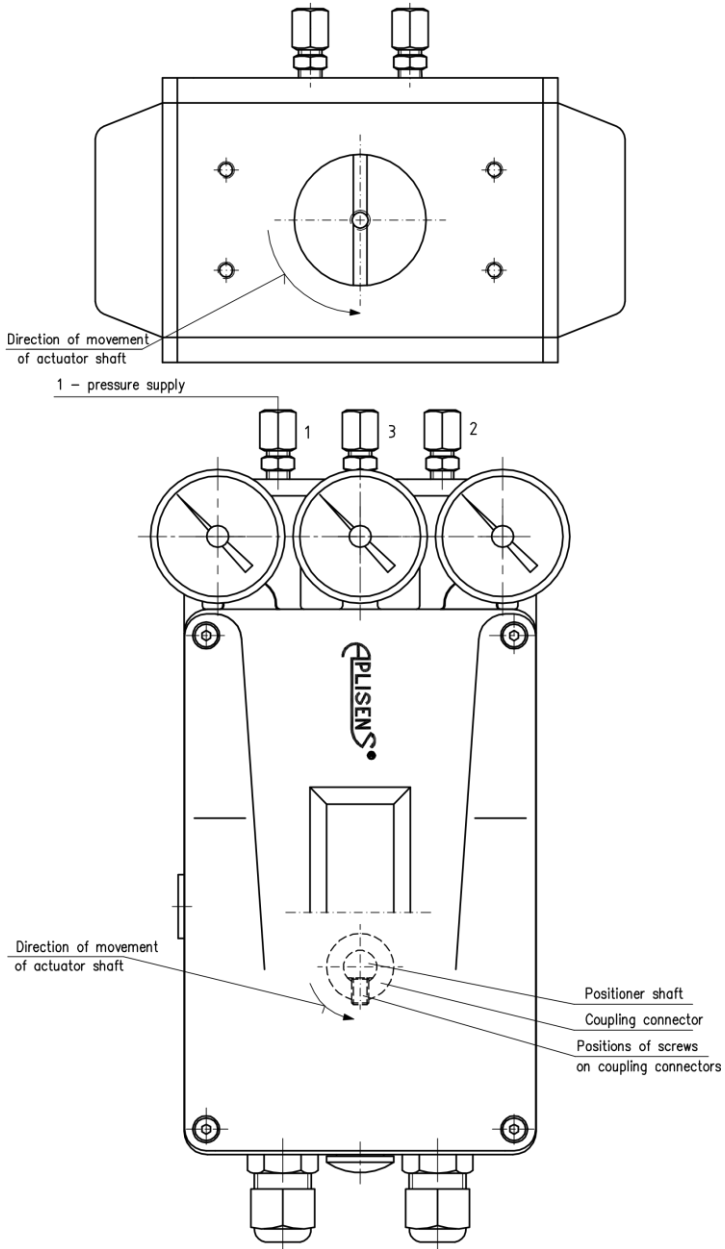

Fig. 10. Mounting position of the APIS-1X0-... and APIS-2X0-... positioner with respect to single-acting or double-acting actuator with rotational movement.
Pay attention to support both fixing screws on flat bevel on positioner shaft - see Fig. 10.
- e) Check the direction of actuator shaft movement and position of screws on the coupling connector - Fig. 10.